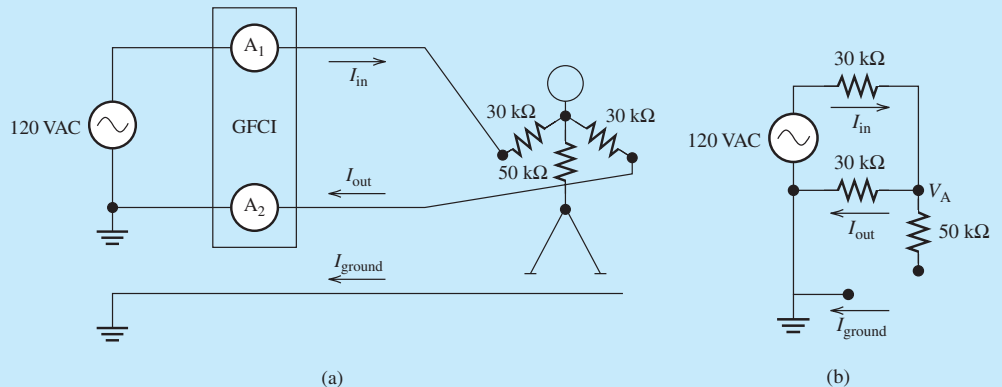

FIGURE 15.21 (a) Figure for Example 15.14; (b) equivalent circuit.
An individual comes into contact with the incoming and return conductors of a GFCI protected outlet, as shown in Figure 15.21. He is wearing rubber boots, which isolate his feet from the ground. (a) Find the currents I_{in} , I_{out} , and I_{ground} . (b) Does the GFCI trip?
- a. The circuit can be modeled as shown in Figure 15.21(b). In this situation, because the person is wearing rubber shoes, and the resistance of those shoes is almost infinity, no current flows through the 50-k Ω resistor. Applying KVL: